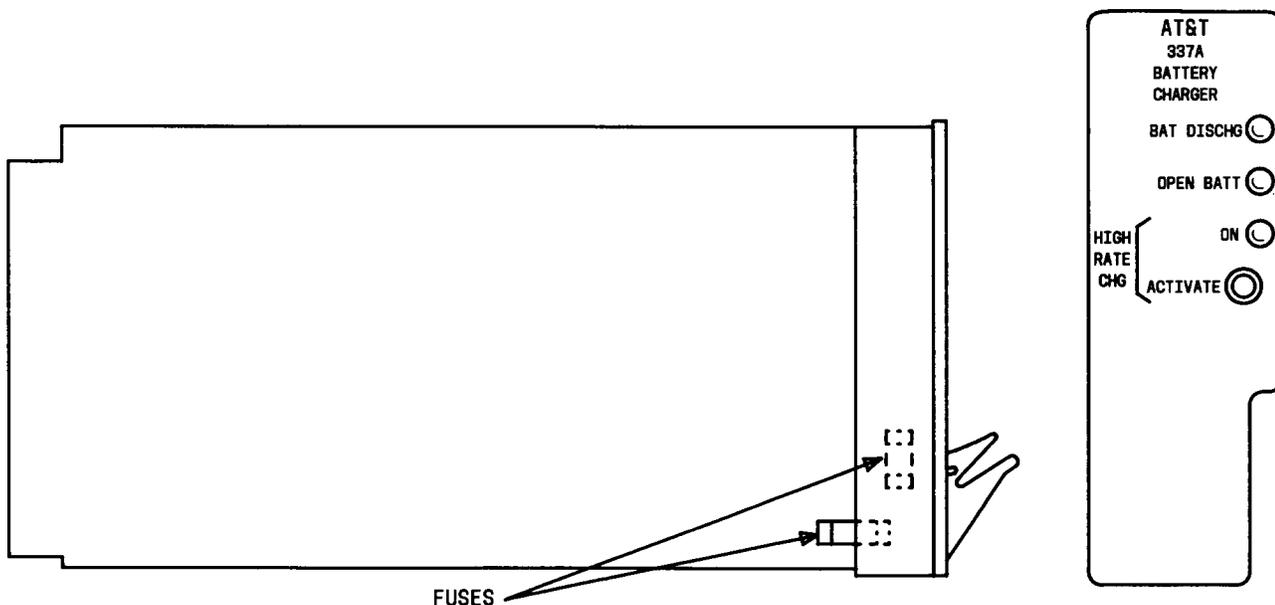

Fig. 1—Location of Fuses on 337A BATTERY CHARGER
Get 337A BATTERY CHARGER (Figure 1) and inspect it for possible damage.
2. Verify that fuses on BATTERY CHARGER are not blown (Figure 1).